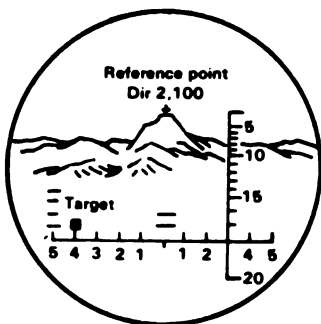
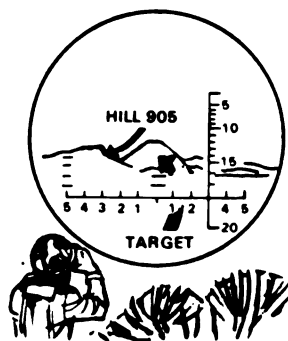

Figure 1
Figure 2
(1) By binoculars: In looking through binoculars you will find a mil scale which is used to measure horizontal distance (fig. 1). This scale is divided into 10-mil increments, with 100 mils across the scale. Let's say Hill 905 in figure 2 is your known point. You measure the deviation from Hill 905 to the target. The deviation is three 10-mil increments, or 30 mils right of Hill 905.
(1) Right Deviations—Add. In figure 2, we know the direction to Hill 905 to be 3200 mils. With the binoculars, we measure the deviation to be 30 mils. Since the target is right of the known point we add the deviation (30 mils) to the known direction (3200 mils). The sum is the direction to the target (3230 mils).
(2) Left Deviations—Subtract. In figure 1, we know the direction to the reference point (2100 mils). With the binoculars, we measure the deviation to be 40 mils. Since the